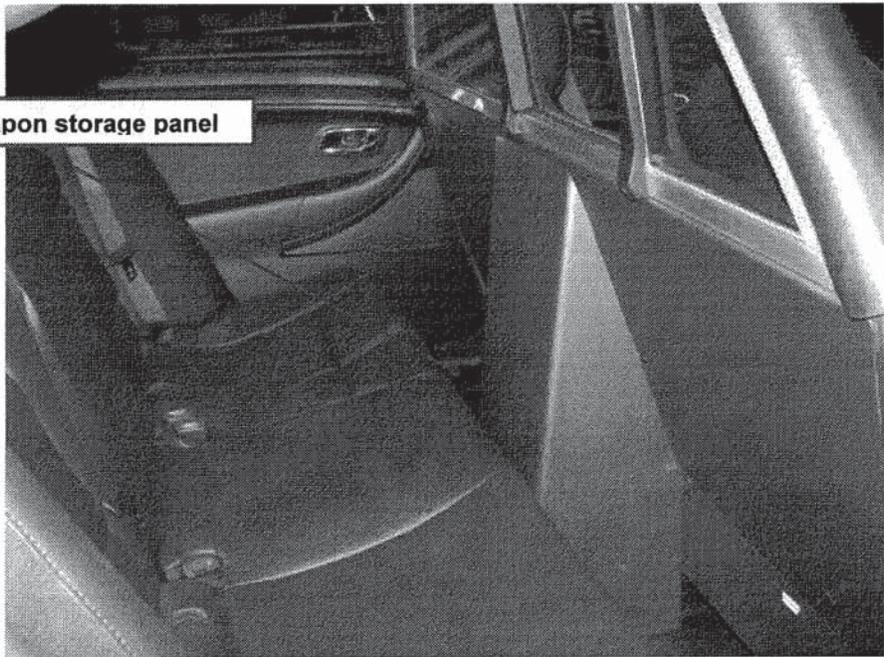

Figure 23 – Security screens (with recessed weapon storage panel and sliding centre window)
33. All Ford Police Interceptor Utility marked MP vehicles ***shall*** be equipped with a “silent partner” security screen. Security screens ***shall*** include a recessed weapon storage panel and a sliding centre window and ***shall*** be compatible with all airbags including, but not limited to, side curtain airbags. *Figures 23 and 24* contain illustrated examples.